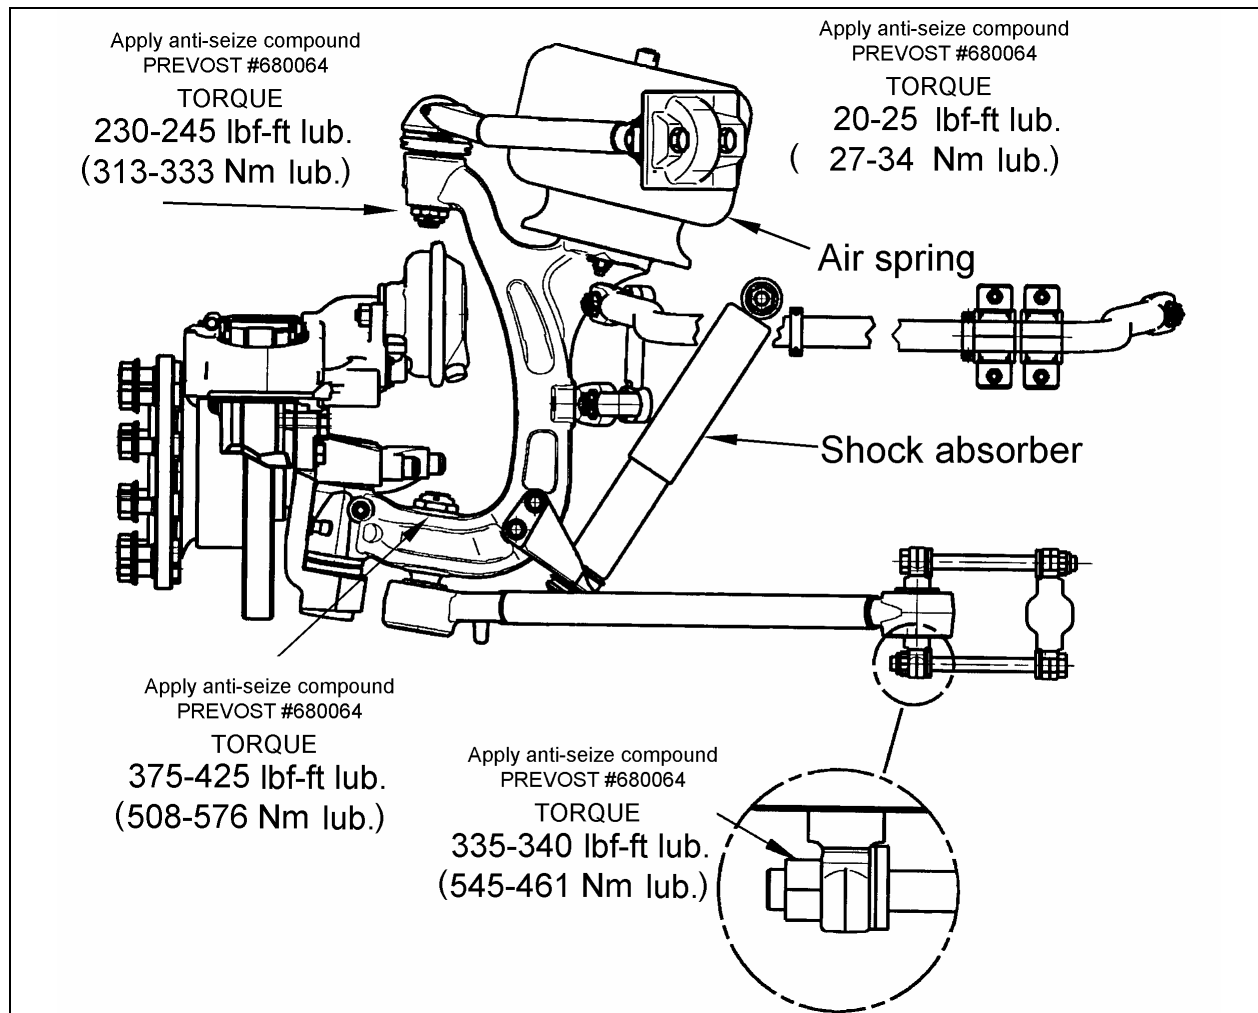

FIGURE 32: AIR SPRING AND SHOCK ABSORBER
- **Torque replaced nuts as per figure 32.**
5. Install the shock absorber as shown in figure 32 with the mounting stud protruding through the hole in the mounting bracket and the shock absorber eyes over the mounting pins. Install the outer washer.